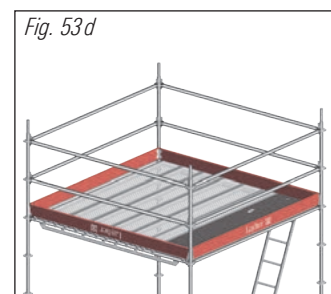

Fig. 53d
4. Toe board fitting is completed with the fourth toe board, which is installed at the end on the opposite side (Fig. 53d).